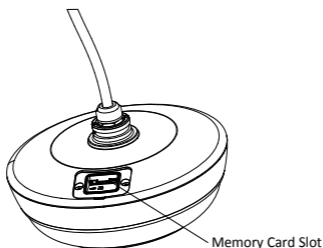

Figure 2-13 Insert the Memory Card
2. Insert the memory card into the memory card slot, as shown in Figure 2-13.